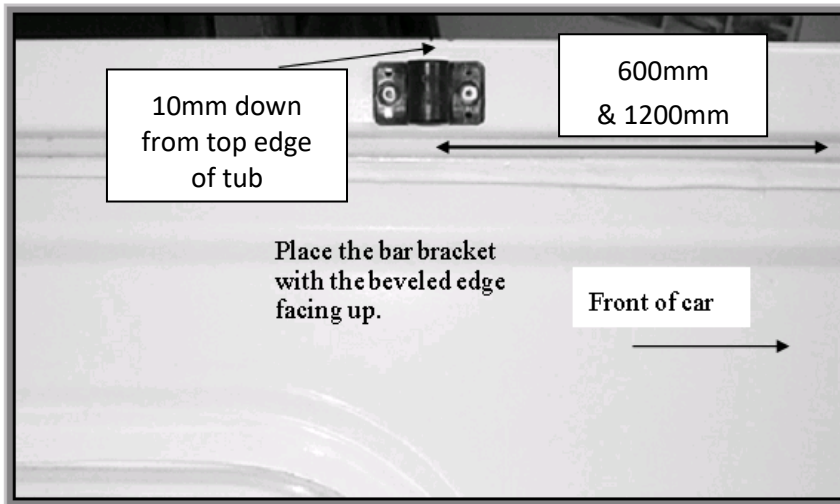

Figure 2: Placement of bar bracket
6. With a pencil mark the inside edge on each side of the tub at 600mm and 1200mm from the inside front face of tub towards the rear on each side. Centrally locate the bar bracket over these positions and align the top of the bar bracket 10mm down from the top edge of the tub and drill and rivet bracket into place. **See Figure 2.** Repeat for other side of tub. Fit tonneau support bar to bar brackets.